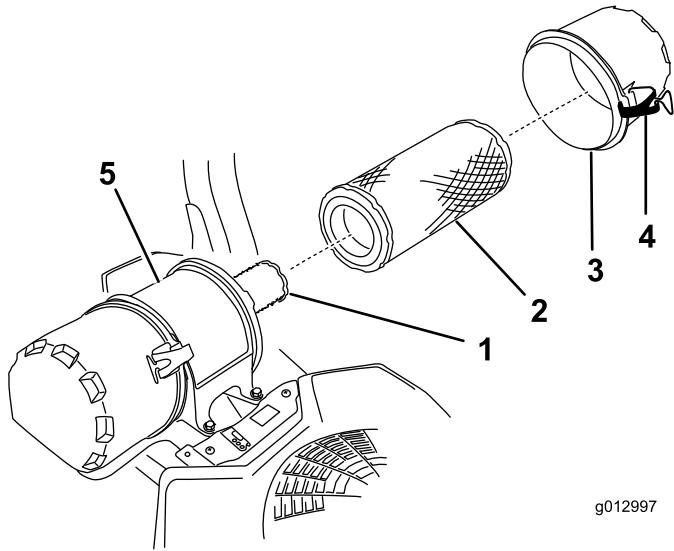

Figure 48
6. Release the latches on the air cleaner and pull the air-cleaner cover off the air-cleaner body (Figure 48).
8. Gently slide the primary filter out of the air-cleaner body (Figure 48).
4. Install the air cleaner cover and secure the latches (Figure 48).
2. If the inner filter is being replaced, carefully slide it into the filter body (Figure 48).
3. Carefully slide the primary filter over the inner filter (Figure 48).